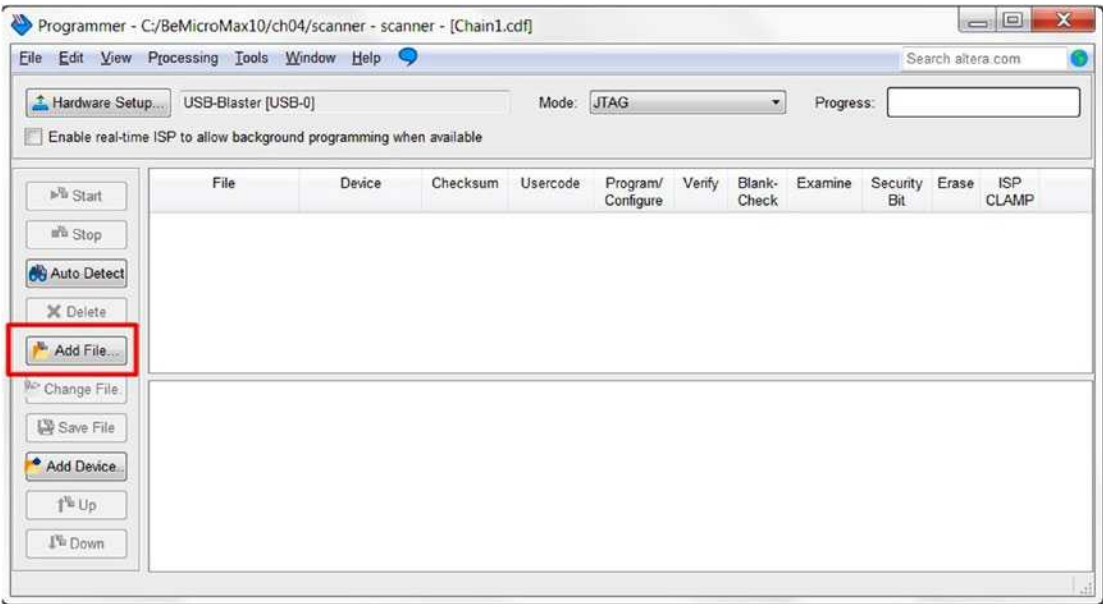

Figure 4-58. *Programmer—Add File*
3. Click **Add File...** (Figure 4-58)